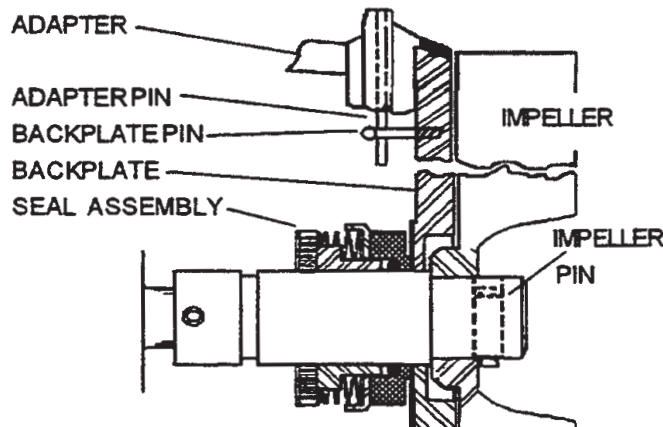

Figure 17
- Rotate the back-plate until the back-plate pins engage the adapter pins (see Figure 17).
- Rotate the shaft until the pin's hole in the end is in a horizontal position. Insert the impeller pin, center it in the shaft end and slide the impeller on the shaft. Hold the impeller tight against the stub shaft and rotate the shaft one-fourth turn until the impeller pin drops and secures the impeller (see Figure 17).